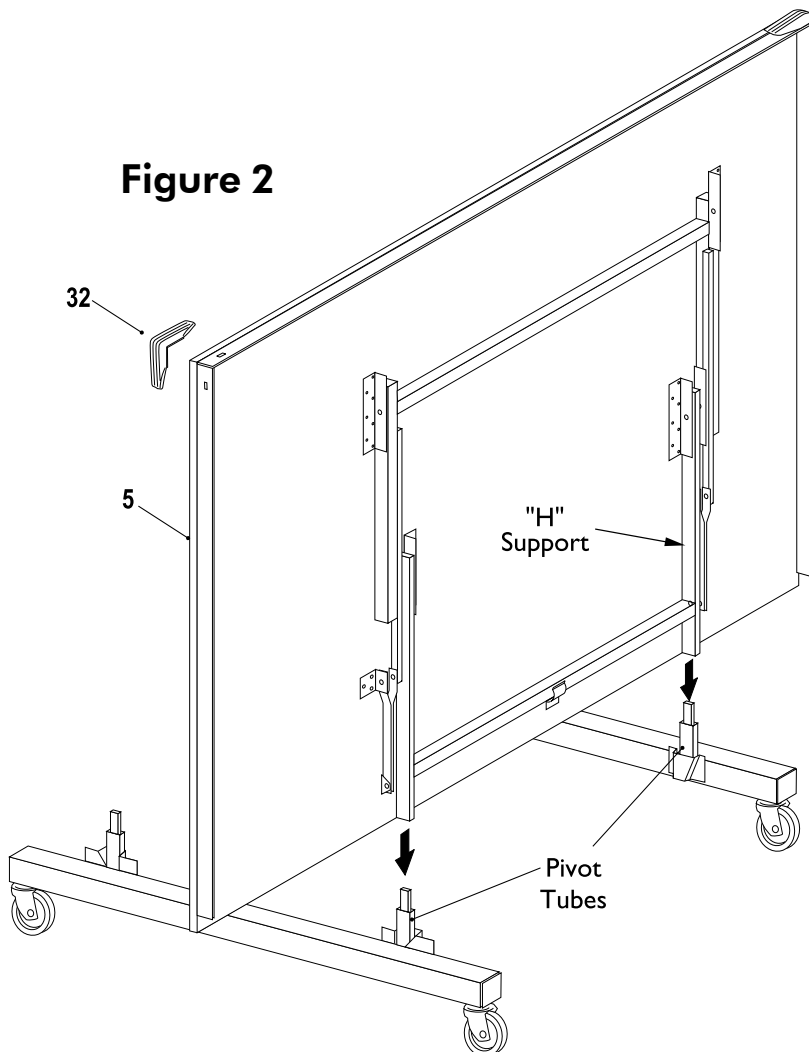

Figure 2
4. Attach corner cap to outside corners of table by snapping into slots. See Figure 2.